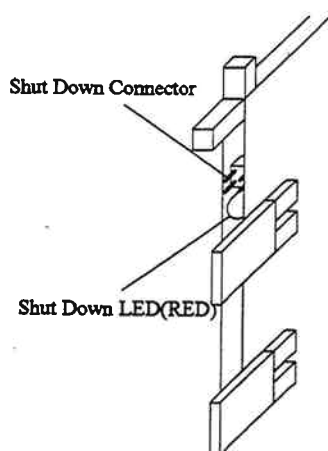

Fig. 3.7.5.4.2-1 Shut Down LED
- a. Confirm that the Shut Down LED lights.(Fig. 3.7.5.4.2-1) If the LED does not light, see Connection of Shut Down Jumper(INST03-2600).